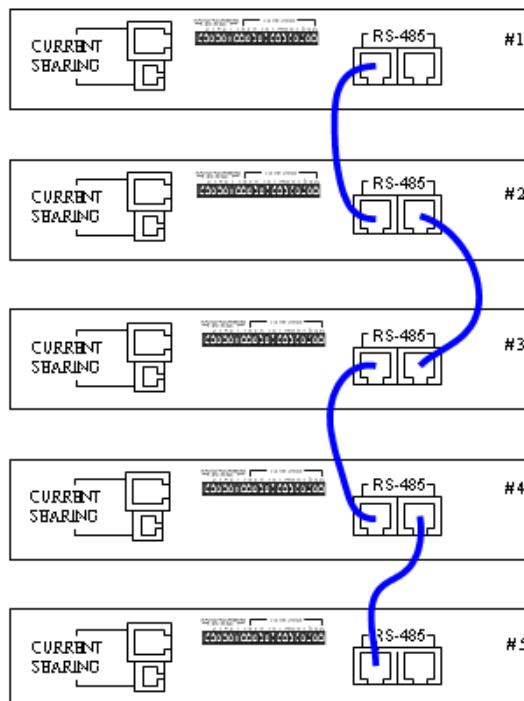
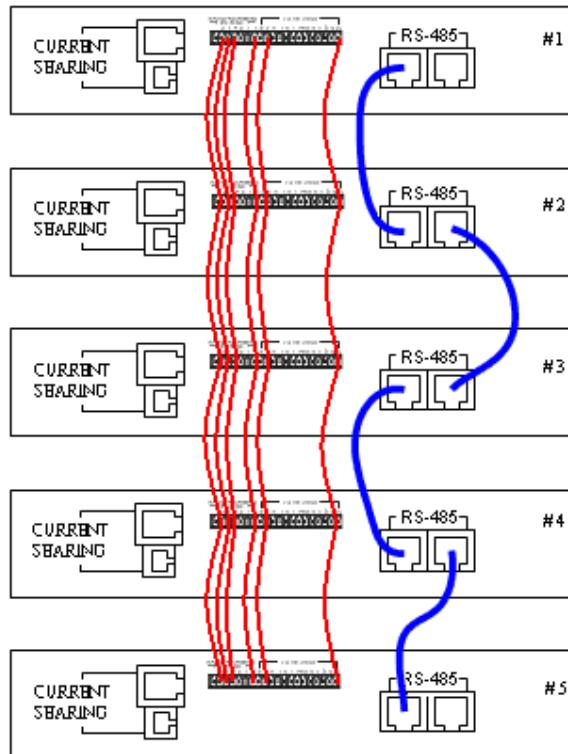
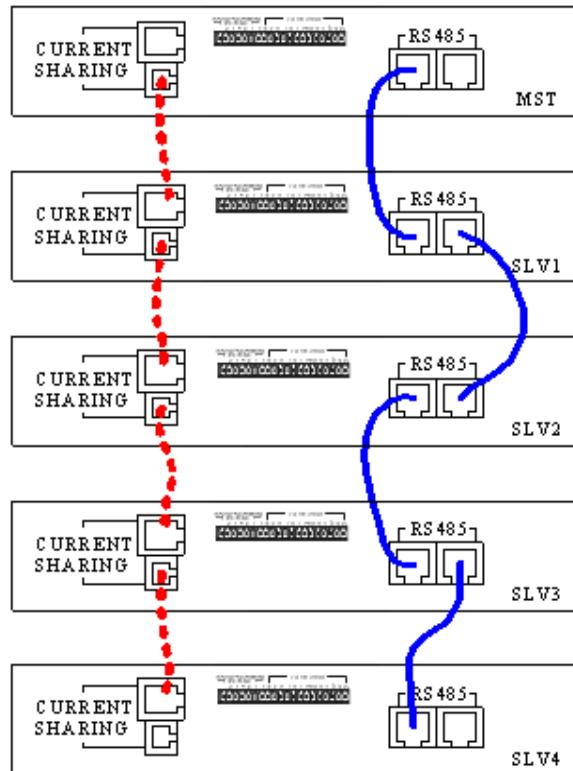
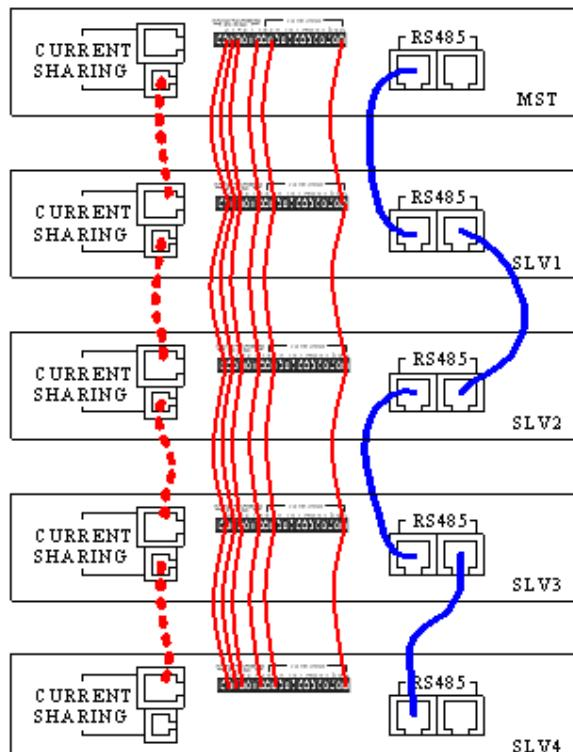

Figure 3-31
Figure 3-32
Figure 3-33
Figure 3-34
1. To operate the Power Supplies in series, connect the RS-485 connectors on the rear panel as shown in Figure 3-32. When using APG control, PINs 2, 3, 4, 7, 9 and 20 of the green signal connector on the rear panel must be connected to the green connector of the next device as shown in Figure 3-32.
2. To operate the Power Supplies in parallel, besides connecting the RS-485 connectors on the rear panel, the CURRENT SHARING connector has to be connected as well, as shown in Figure 3-33. When using APG control, PINs 2, 3, 4, 7, 9 and 20 of the green signal connector on the rear panel must be connected to the green connector of the next device as shown in Figure 3-34.
1. Each DC Power Supply has two RS485 interface female connectors. They need to be connected either in series or parallel operation. There is no difference between left and right; just connect one after another as shown by the solid line in Figure 3-31 or Figure 3-33.
2. Each DC Power Supply has two CURRENT SHARING connecting terminals with different profiles. Connect the output terminal of the first Power Supply to the input terminal of the second Power Supply and so forth as shown by the dotted line in Figure 3-33 and Figure 3-34. Be sure to use the CURRENT SHARING communication cable provided by CHROMA.
Connect the cables on the rear panel as shown in Figure 3-31 and Figure 3-32 when set to SERIES, and as shown in Figure 3-33 and Figure 3-34 when set to PARALLEL.